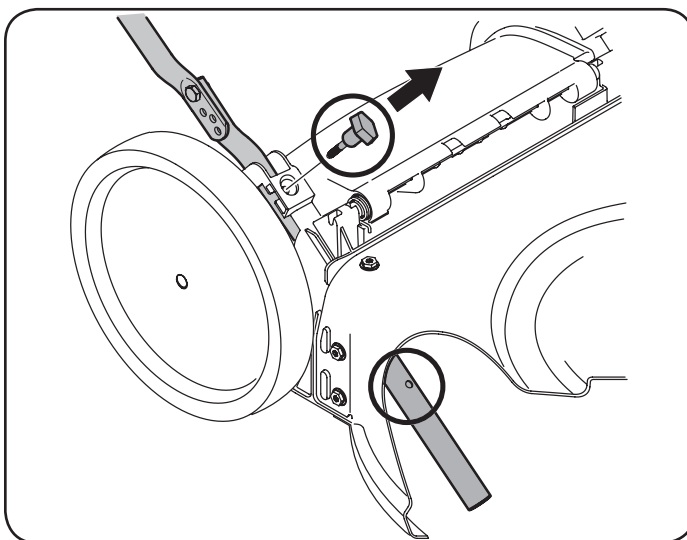
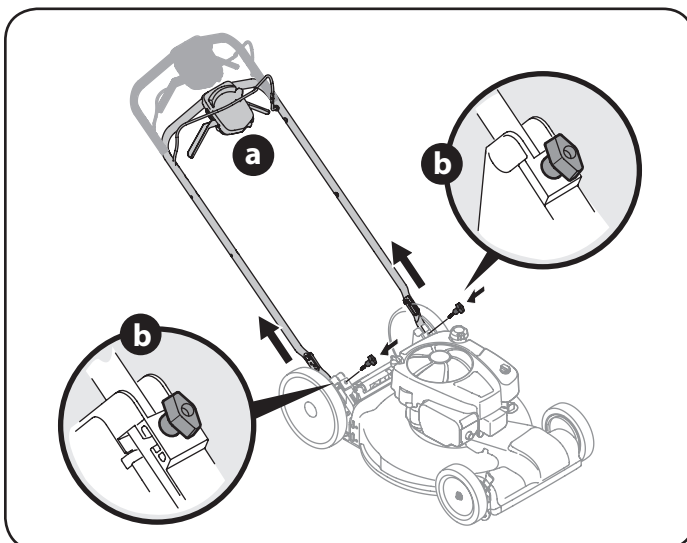

Figure 3
Figure 4
2. Remove T-bolts from the handle brackets as shown in Figure 3.
- a. Pull upward on the handle until holes in lower handle (shown in Figure 3 deck cutaway) line up with holes in handle bracket. See Figure 4.
- b. Insert the T-bolts removed in Step 2 through the handle brackets and lower handle and tighten securely to secure the handle in place. See Figure 4.